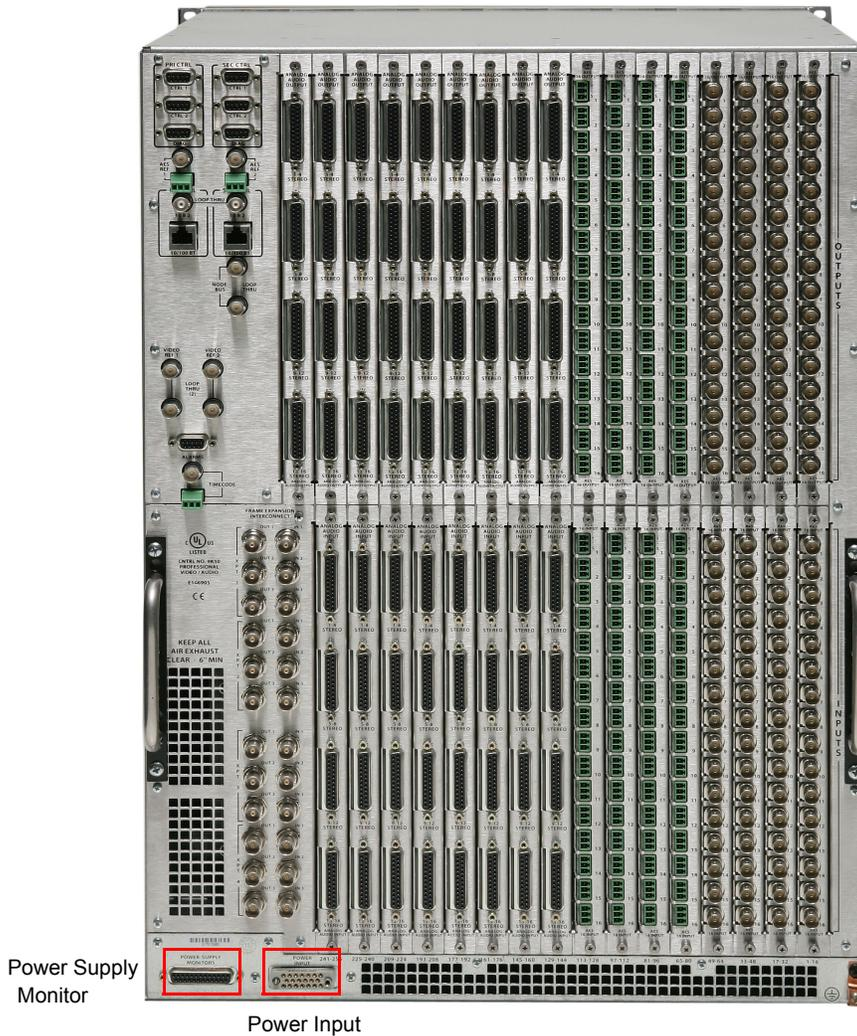

Figure 3-5. NV7256Plus Router (Rear View)
- 6 Facing the rear of the **router**, connect the other end of the monitor cable to ‘Power Supply Monitor’ as shown in Figure 3-5.